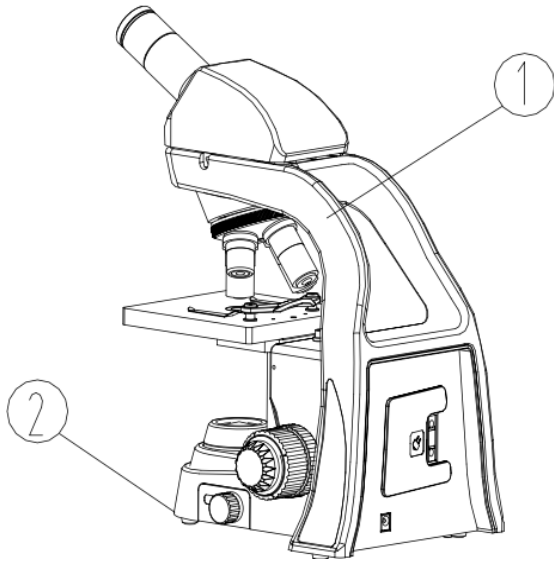

Fig. 1
3. When moving the microscope, keep holding the rear cover hand clasp (1) and the front end of microscope body (2) with each hand. Handle with care. (See Fig. 1)